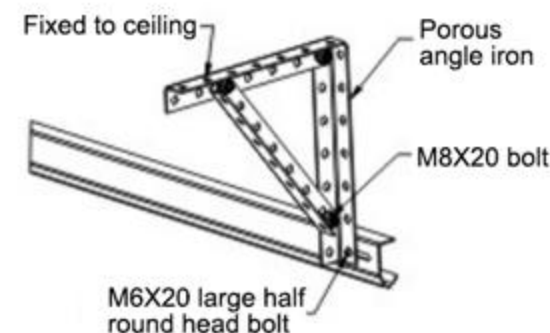

Figure 4-2
c. Make a symmetrical triangular bracket with porous angle iron, and connect it with the guide rail with M6X12 bolts to ensure that the left (right) outer side of the horizontal guide rail and the left (right) outer side of the vertical guide rail are on the same plane perpendicular to the door panel, and the plane error is not the same. Greater than 2mm, the two horizontal guide rails are guaranteed to be in the same plane, and the plane error is not greater than 2mm. Fix the triangular bracket on the ceiling with expansion bolts (as shown in Figure 4-2); the position and quantity of the triangular bracket are determined according to the hoisting holes on the horizontal guide rail and the length of the guide rail.